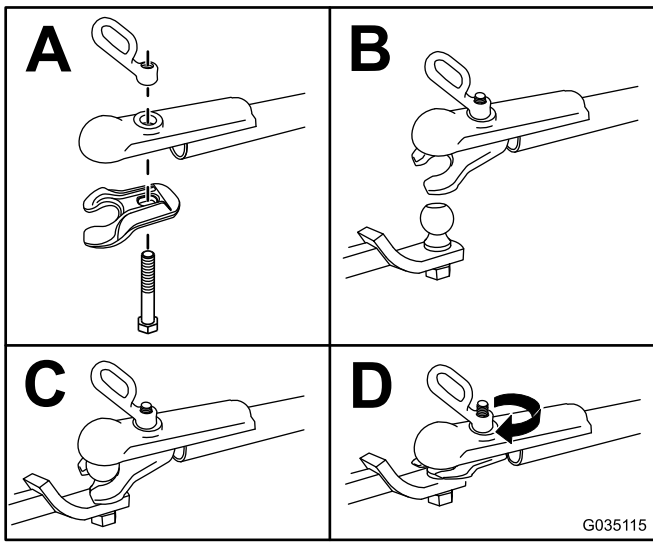

Figure 17
3. Hitch the machine as shown in Figure 17.